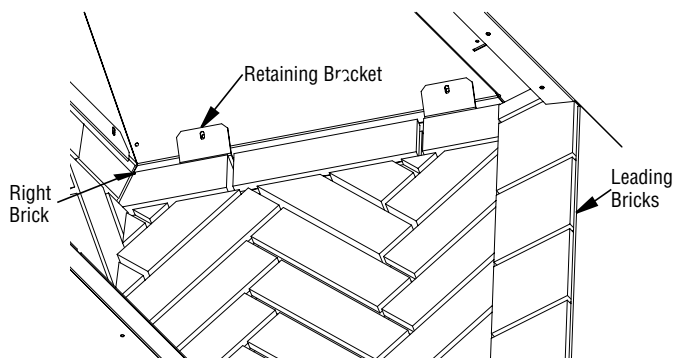

Figure 30 - Securing Left & Right Brick Panels
- Secure both the left and right brick panels using two (per side) of the side retaining brackets provided. Align bracket with holes located on the inner dome of the fireplace. The bracket will slip underneath the metal lip on the top of the panel and screw into the inner dome of the fireplace (**Figure 30**).